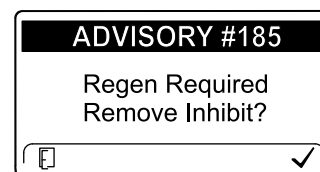

Figure 37
**Note:** If you set the InfoCenter to inhibit regeneration, the InfoCenter displays ADVISORY #185 (Figure 37) every 15 minutes while the engine requests a reset regeneration.